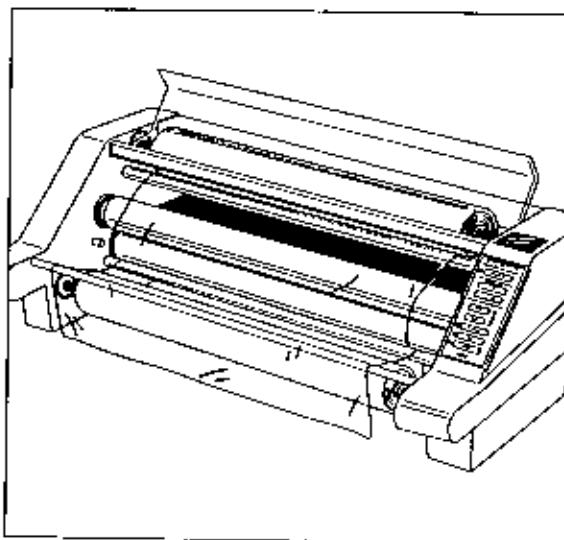

Fig. 8
13. Slide the feed tray under the bottom film web that is draped over the bottom roll of film. Reinstall feed table so that the bottom film web is resting on the tray, (Figure 8).